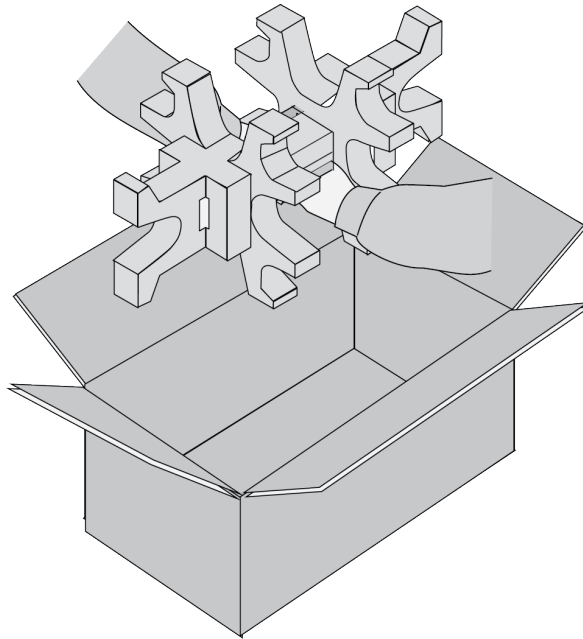

Figure 54. Removing the Power Supply from the Shipping Box
3. Lift the power supply from the shipping box and place it on a level, secure table. Refer to Figure 54 on page 117.